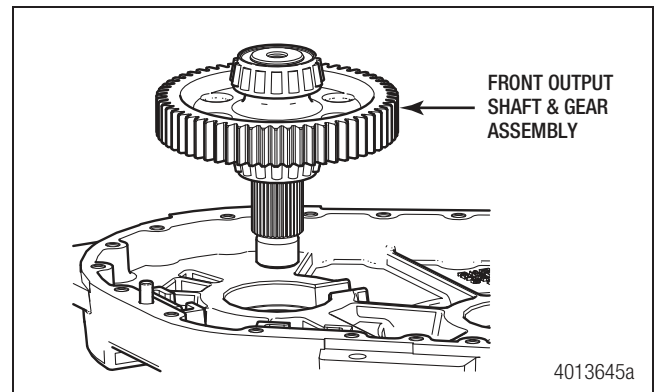

Figure 4.33
4. Remove the front output shaft and gear assembly from the case half. Figure 4.33.